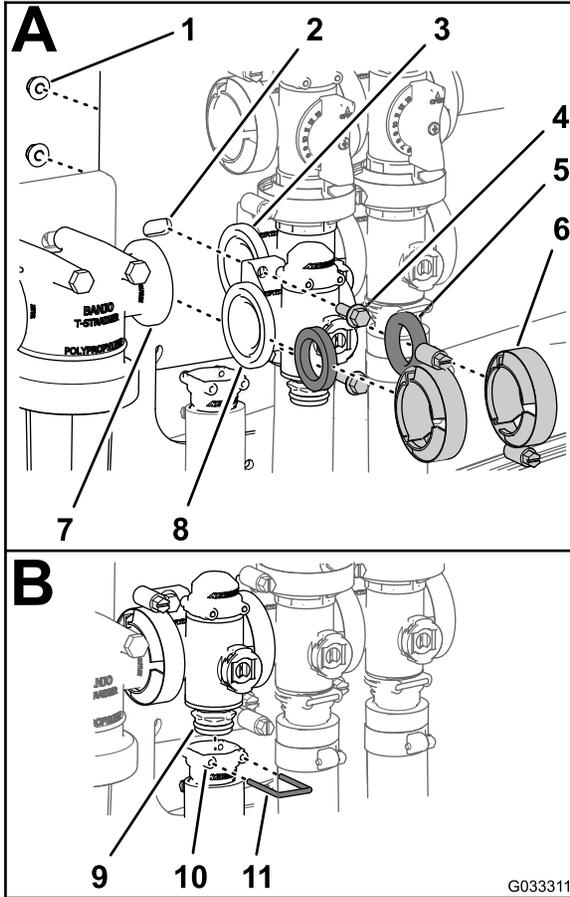

Figure 75
1. Align a gasket between the flanges of the rate-control-valve manifold and the pressure-filter head (A of Figure 75).
4. Assemble the rate-control-valve manifold, gasket, and agitation-valve manifold with a clamp tightened hand-tight (A of Figure 75).
5. Assemble the rate-control valve to the valve mount with the 2 flanged-head bolts and 2 flanged locknuts (A of Figure 75) that you removed in step 3 of Removing the Rate-Control-Manifold Valve \(page 65\) and torque the nut and bolt to 1,017 to 1,243 N·cm (90 to 110 in-lb).
6. Assemble the outlet fitting onto the lower end-cap fitting of the manifold valve (B of Figure 75).
7. Secure the end-cap fitting to the outlet fitting by inserting a retainer into the socket of the outlet fitting (B of Figure 75).
2. Assemble the rate-control-valve manifold, gasket, and pressure-filter head with a clamp tightened hand-tight (A of Figure 75).
3. Align a gasket between the flanges of the rate-control valve and the agitation-valve manifold (A of Figure 75)